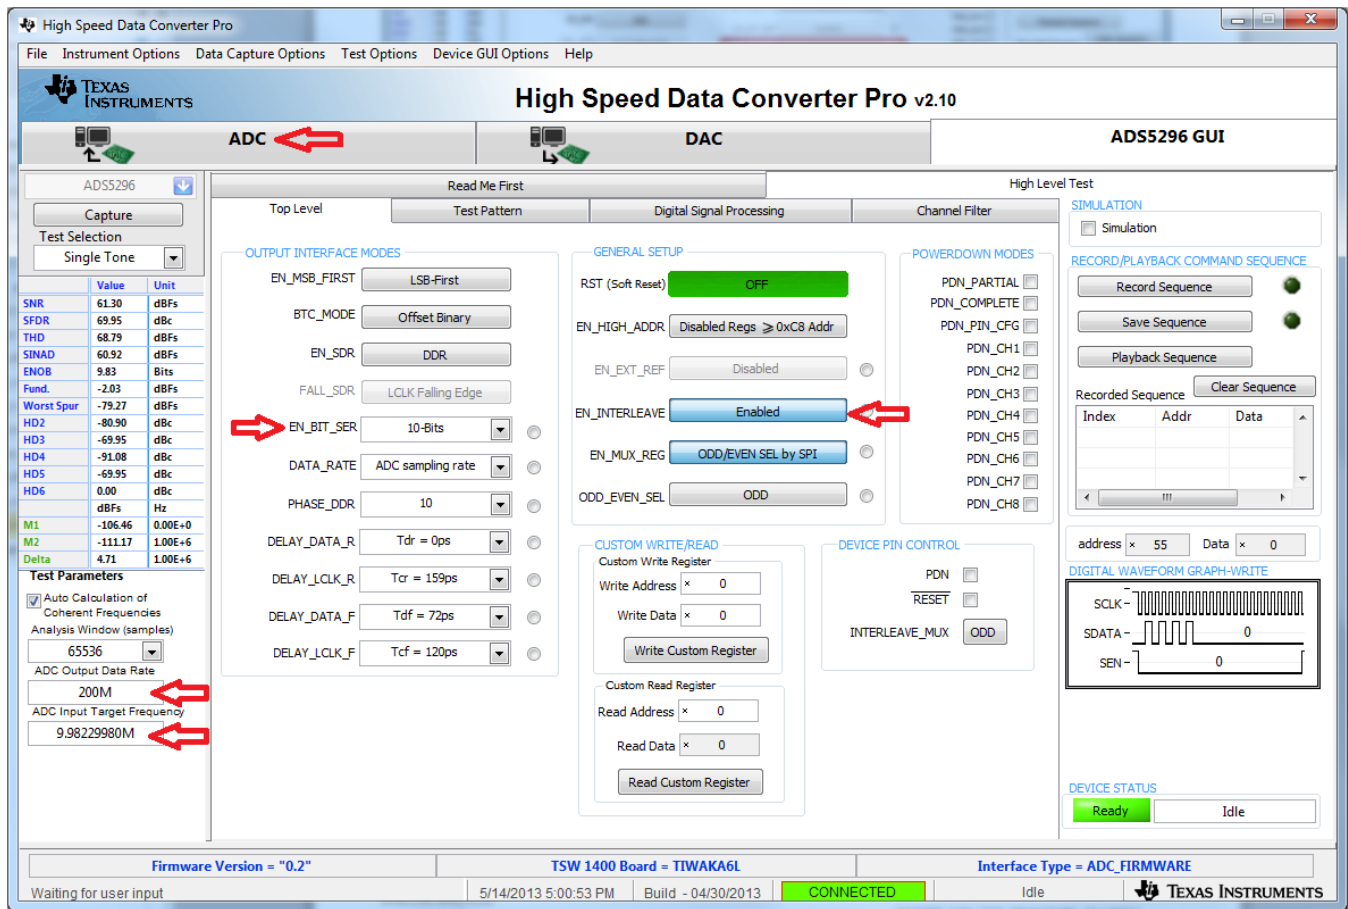

Figure 48. Quad-Interleaving Mode GUI Setup
2. From the *ADS5296 GUI*, *Top Level* tab, make the following changes as shown in Figure 48. With this configuration the ADS5296 will be sampling channel 1 since the **ODD_EVEN_SEL** is set to **ODD** in the software GUI.